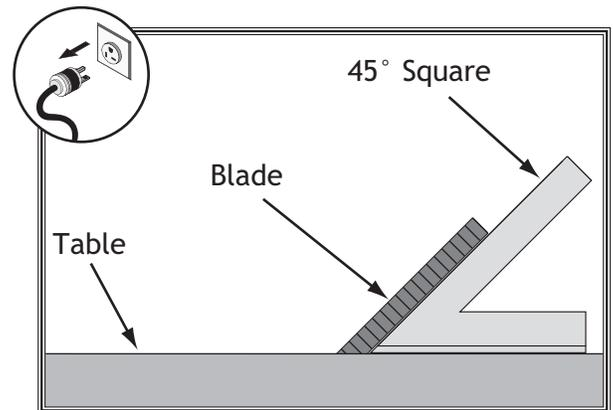

Figure 108. Checking blade at 45°.
3. Place a 45° square against table and blade so it contacts blade evenly from bottom to top, as shown in **Figure 108**. Make sure a blade tooth does not obstruct placement of square.
6. Place a 45° square against blade, as shown in **Figure 108**, then adjust blade until it is exactly 45° to table.